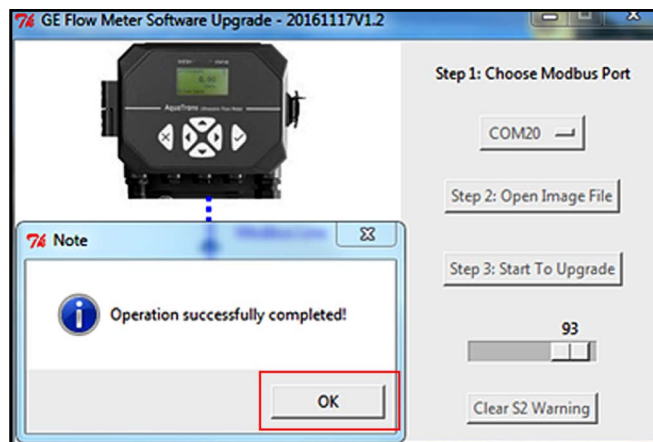

Figure 40: S2 warning successfully cleared
3. After about 15 seconds, a screen similar to *Figure 40* below is displayed. Click OK and then reboot the AT600 to confirm that the S2 error has been cleared.